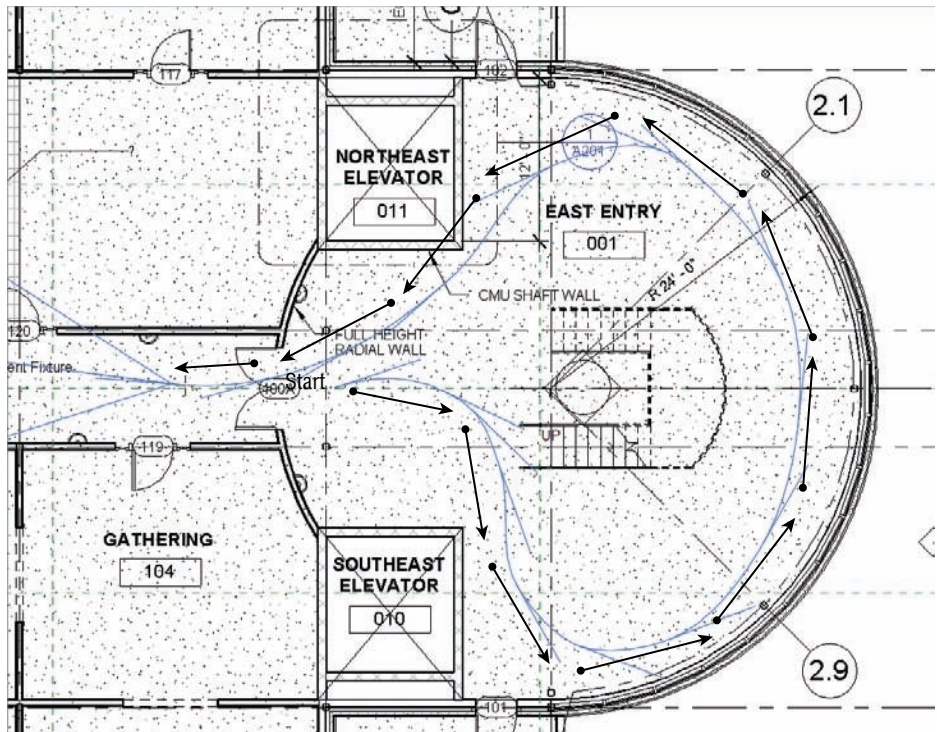

FIGURE 19.19 Picking the points in the floor plan
4. Start picking points, as shown in Figure 19.19.